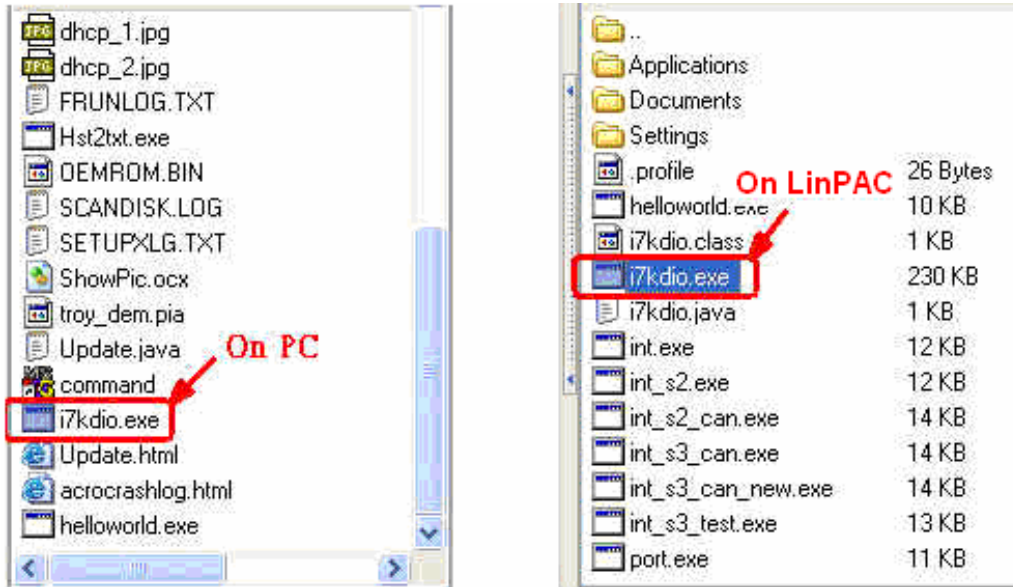

Fig. 5-7
(2) Upload the “**Helloworld.exe**” file to the LP-8x21. (refer to Fig. 5-7).